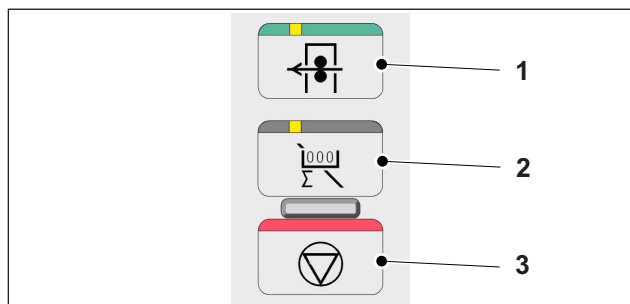

Fig. 25 Automatic buttons
- Production (Fig. 25/1)
- Waste-sheet counter (Fig. 25/2)
- Stop (Fig. 25/3)